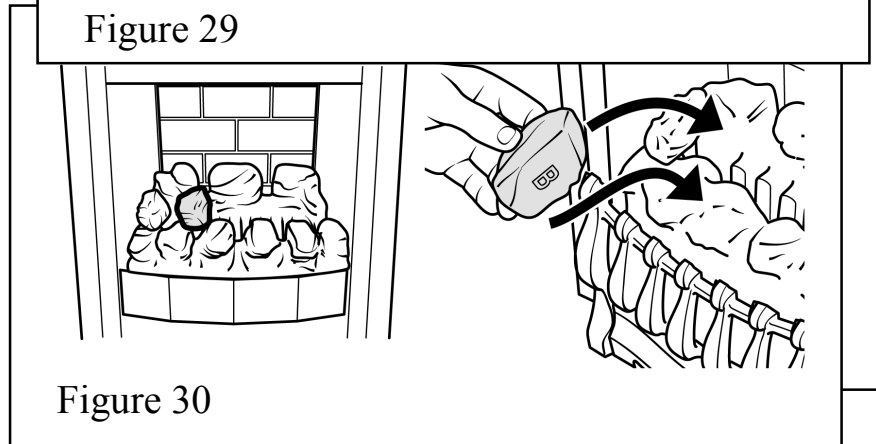

Figure 30
6. Place a type "B" coal between the front and rear base coals as shown in figure 30. The letter "B" should be upright.